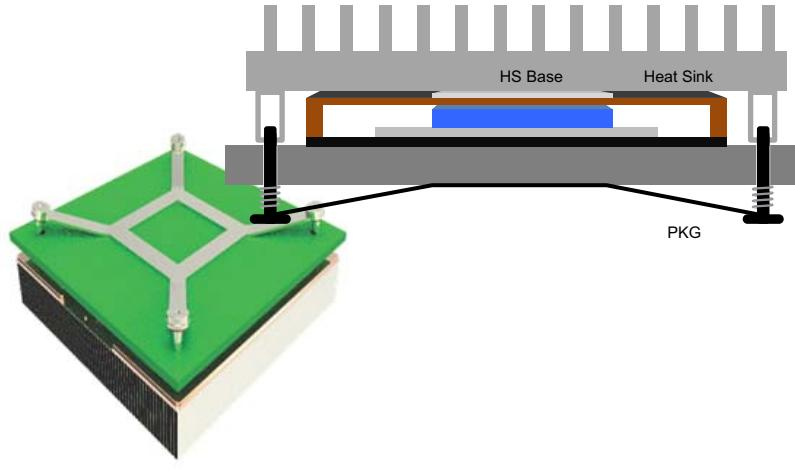

Figure 12-2: Dynamic Mounting and Bracket Clips on Heat Sink Attachment
-  **RECOMMENDED:** Xilinx recommends using dynamic mounting around the four corners of the device package. On the PCB, use a bracket clip as part of the heat sink attachment to provide mechanical package support. See Figure 12-2.